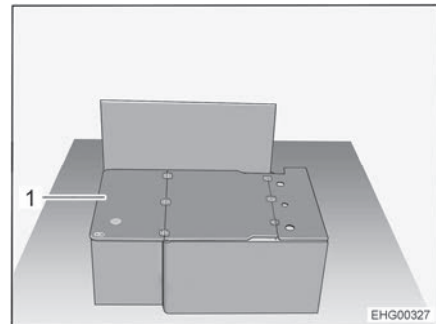

Fig. 23 Divan without cushions
- Fold the support board (Fig. 23,1) by 180° and set it down on the bench seat cover.